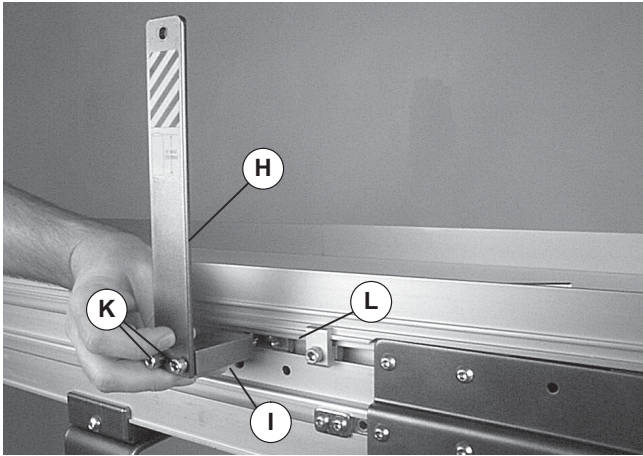

Figure 6
- Loosely attach support bracket (Figure 6, item H) and spacer (I) to T-bar (L) with screws (K).